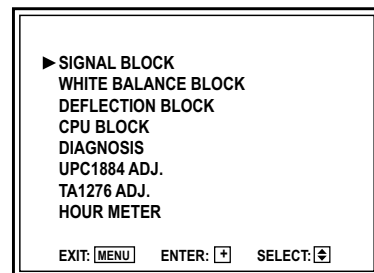

Fig. 3
7. Check that the initial values of the items in the SERVICE MENU (Fig. 3). If any item is set differently, set it as required.